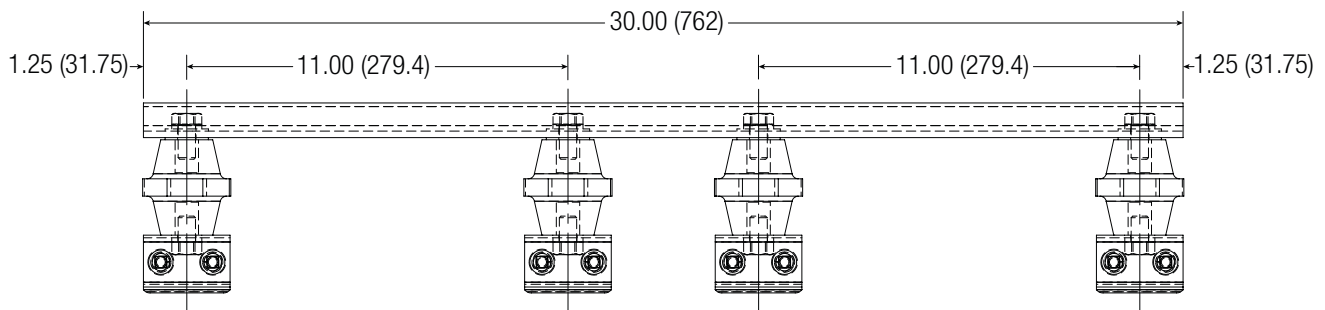

Figure 13-1
13.0.1 Strong back assemblies are used to protect and give extra support when needed for expansion gaps, isolation sections, and power interrupting sections. See **Figure 13-1**.